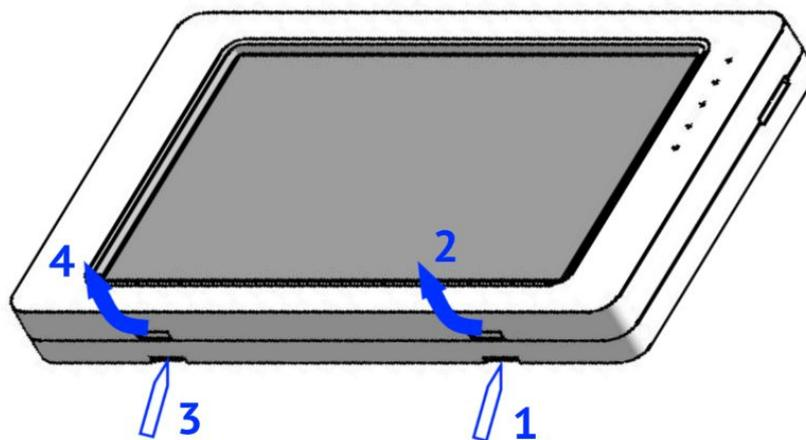

Figure 3. Opening of "Lind-15" DCU cover
To open the DCU (see Figure 3) press by a flat screwdriver onto the lower retainer (1) and slightly pull the front part of the housing (2) to unlock.